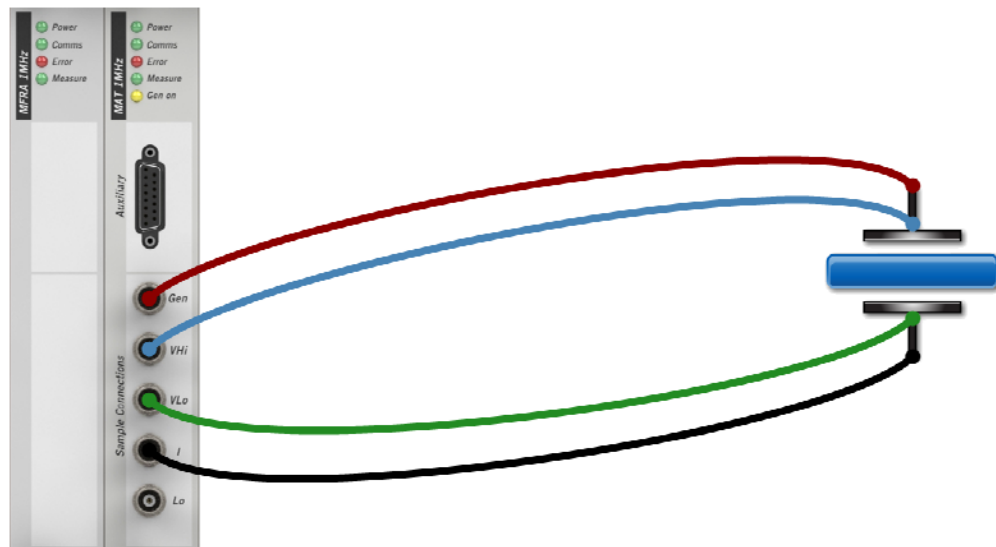

Figure 3-1 General materials testing.
A connection diagram will appear as shown in Figure 3-1.
4. Connect the core module to the sample using the appropriate colour coded cables, as shown in Figure 3-1.